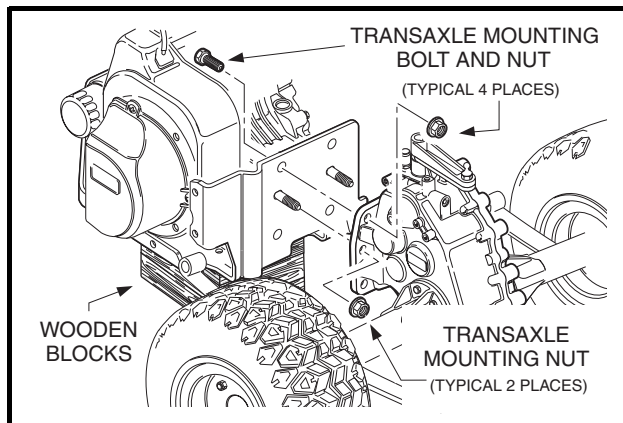

Figure 18-34 Transaxle Mounting
- 22.1. Remove four transaxle mounting bolts (one at each corner of the transaxle mounting plate) (**Figure 18-34, Page 18-13**).